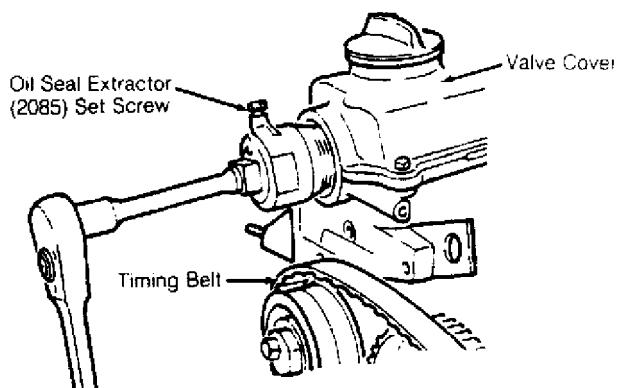

Fig. 15: Removing Camshaft Oil Seal
Remove timing belt. See TIMING BELT under REMOVAL & INSTALLATION. Rotate inner part of Oil Seal Extractor (2085) outward 2 turns and tighten set screw. See Fig. 15. Lubricate threaded area of extractor and push in as far as possible. Loosen set screw and turn inner part of extractor until oil seal is removed.
2) Rotate inner part of Oil Seal Extractor (2085) outward 2 turns and tighten set screw. See Fig. 15. Lubricate threaded area of extractor and push in as far as possible. Loosen set screw and turn inner part of extractor until oil seal is removed.